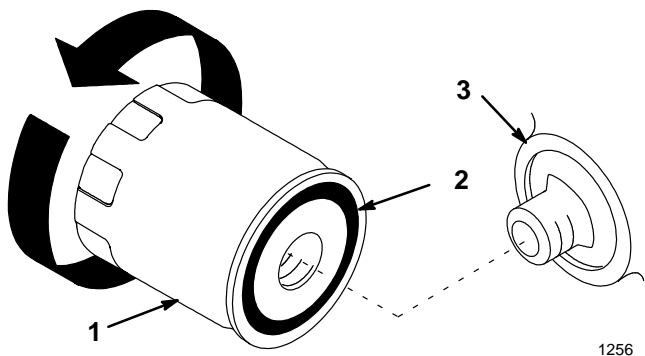

Figure 20
2. Remove the old filter and wipe the filter adapter (Fig. 20) gasket surface.
3. Apply a thin coat of new oil to the rubber gasket on the replacement filter (Fig. 20).
4. Install the replacement oil filter to the filter adapter. Turn the oil filter clockwise until the rubber gasket contacts the filter adapter, then tighten the filter an additional 1/2 turn (Fig. 20).